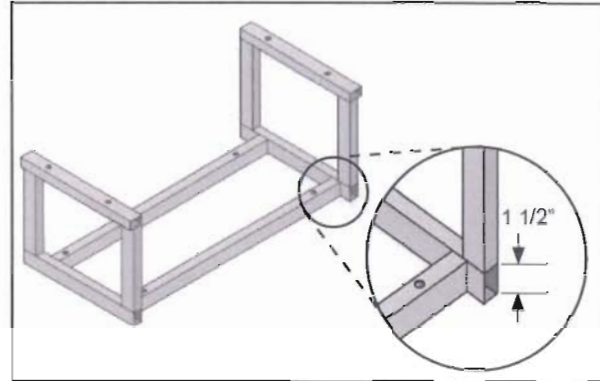

Figure 1
- A. If the horizontal rails are positioned in a tall configuration, 1-1/2" tall and 1" wide, no further action is necessary and this Bulletin is complete. See Figure 1.